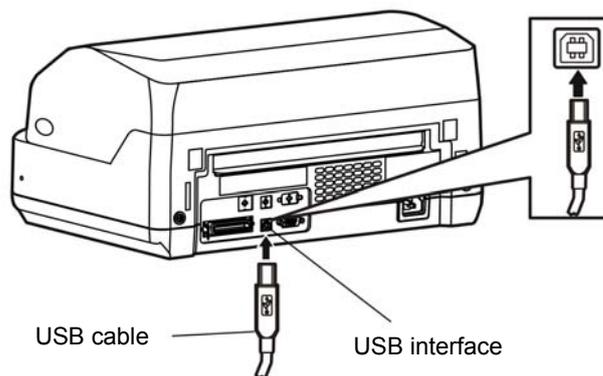

Figure 2-16 Connecting the USB cable
2. Plug the USB cable B end (square shape) into the printer's USB interface. (As Figure 2-16 shown)